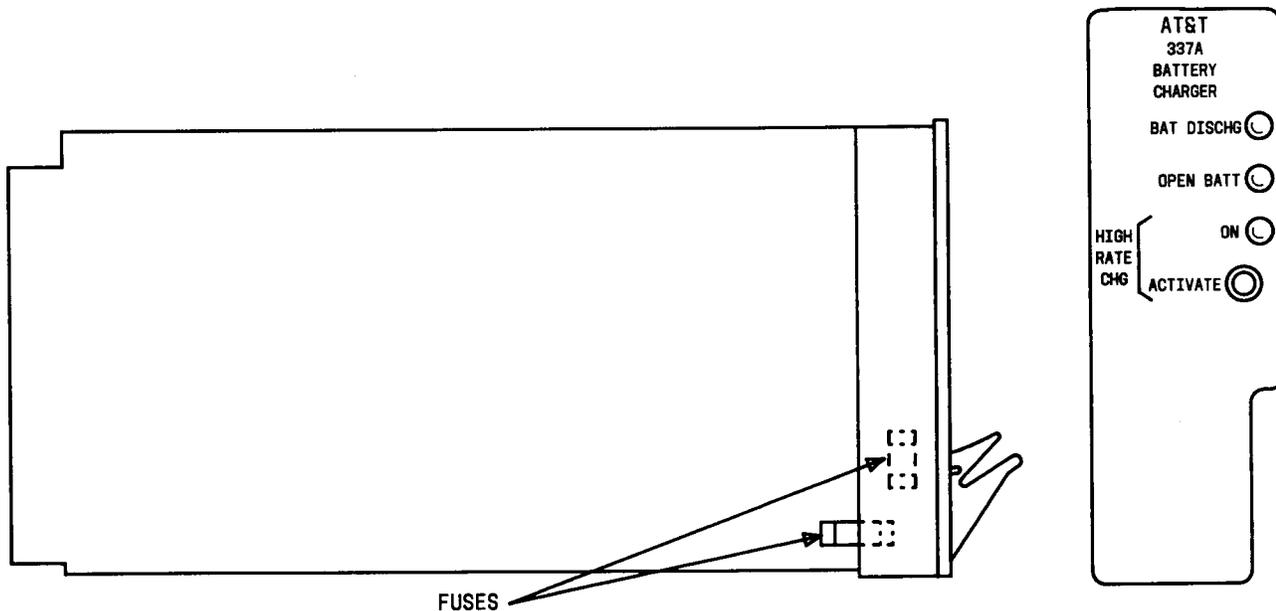

Fig. 1—Location of Fuses on 337A BATTERY CHARGER
1. Get one 337A BATTERY CHARGER (Figure 1) and inspect it for possible damage.
2. Verify that fuses on BATTERY CHARGER are not blown (Figure 1).